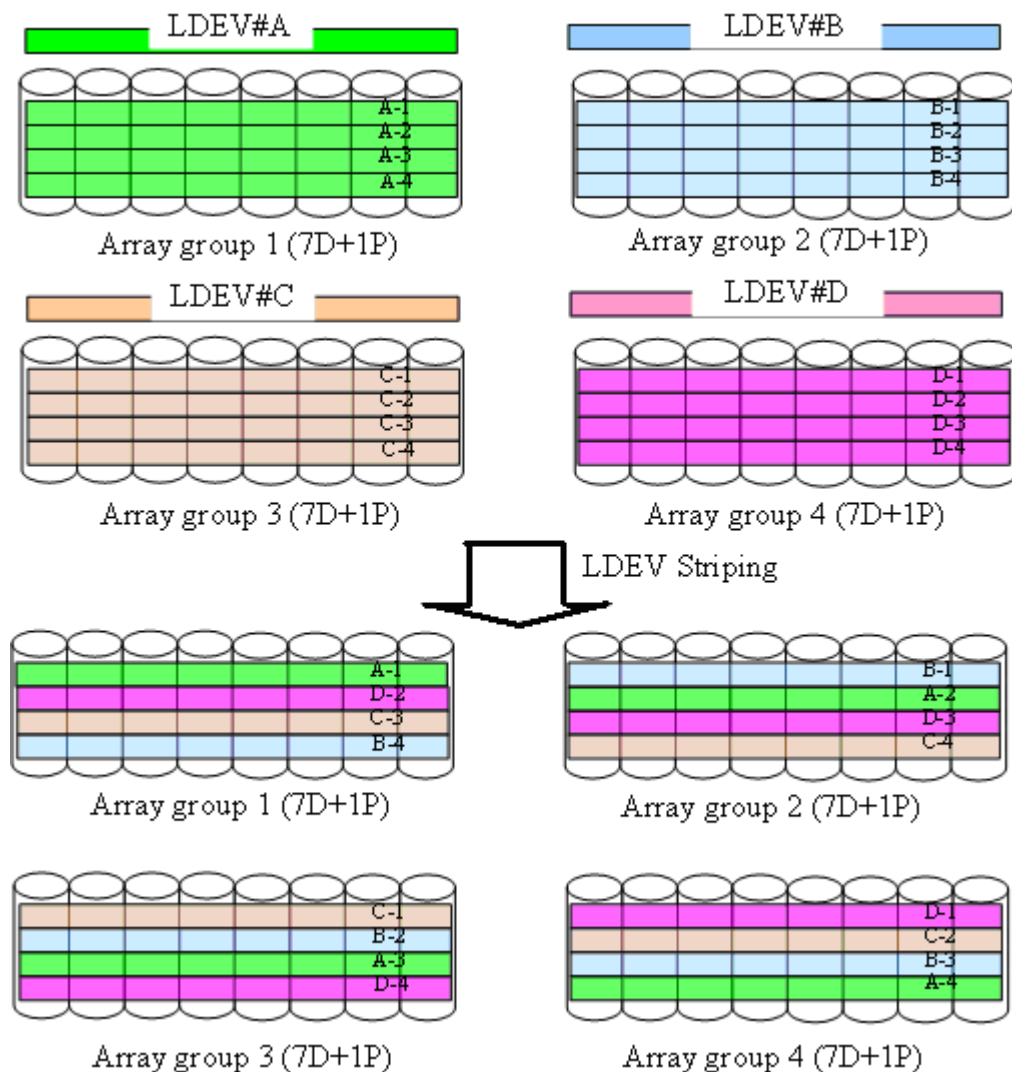

Figure 13 LDEV Striping Across 4 RAID5 (7D+1P) Array Groups
- LDEV striping across four RAID5 (7D+1P) array groups. The maximum number of LDEVs in this configuration is 2000. See Figure 13 LDEV Striping Across 4 RAID5 \(7D+1P\) Array Groups on page 61.